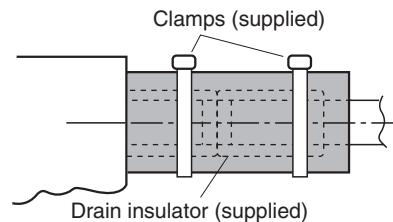

Fig. 1-75
- After connecting the drain piping securely, wrap the supplied packing and drain pipe insulator around the pipe, then secure it with the supplied clamps. (Fig. 1-75)